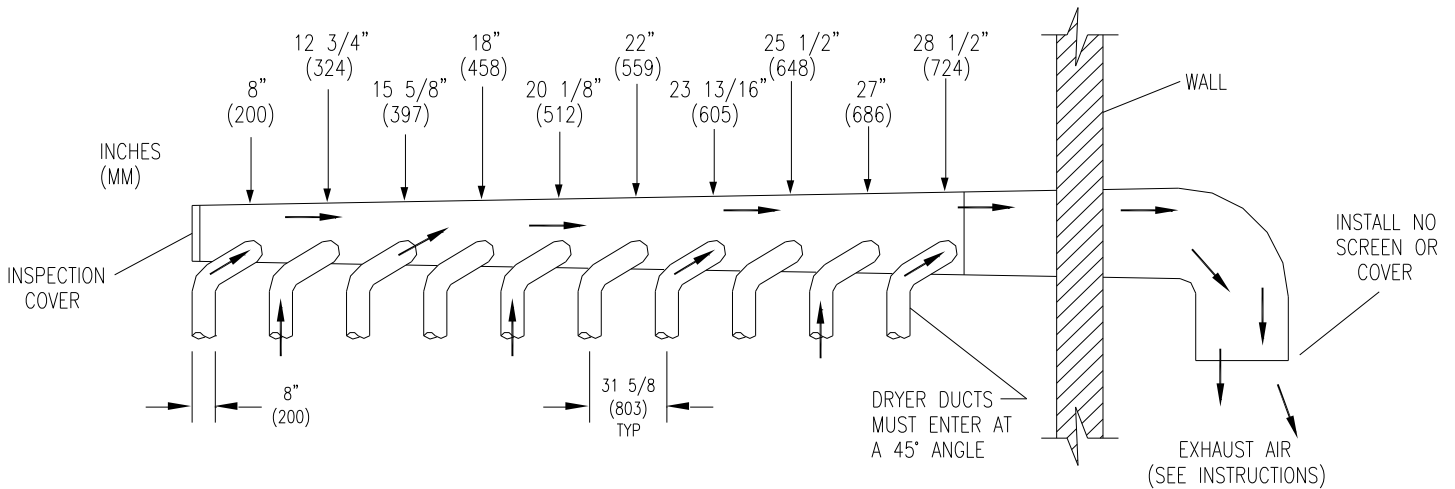

FIGURE 3- Dryer Exhausting Using A Main Discharge Duct.
| Figure 3 - Dryer Exhausting | 7 |
6. **EXHAUST INSTALLATION.** (Refer to Figure 3 at the end of section 6.) Exhausting of the dryer(s) should be planned and constructed so that no air restrictions occur. Any restriction due to pipe size or type of installation can cause slow drying time, excessive heat, and lint in the room.
Installation of several dryers, where a main discharge duct is necessary, will need the following considerations for installation (see Figure 3). Individual 8" exhaust ducts from each dryer should enter main discharge duct at a 45-degree angle in the direction of discharge airflow.
NOTE: Never install the individual ducts at a right angle into the main discharge duct. The individual ducts from the dryers can enter at the sides or bottom of the main discharge duct. Figure 3 indicates the various round main duct diameters to use with the individual dryer ducts. The main duct can be rectangular or round, provided adequate airflow is maintained. The total exhausting (main discharge duct plus duct outlet from the dryer) should not exceed the equivalent of 14 ft. (4.25 m) and two elbows. The diameter of the main discharge duct at the last dryer must be maintained to exhaust end.